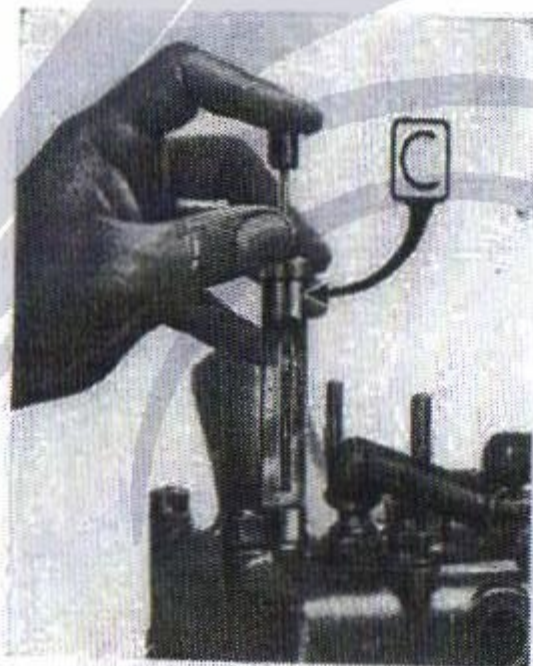

Fig. 49
c) Remove the plug on the cylinder head, in coincidence with cylinder No. 4 and fit instead gauge C. 900 for checking the dead center (Fig. 49). Push the rod up to the top of the piston and note the position of the reference nick, then turn the crankshaft so as to reach the piston bottom dead center and make
a) Unscrew, on the No. 4 cylinder head the plug for checking the dead center, and screw up instead the apparatus C. 900 (Fig. 49).